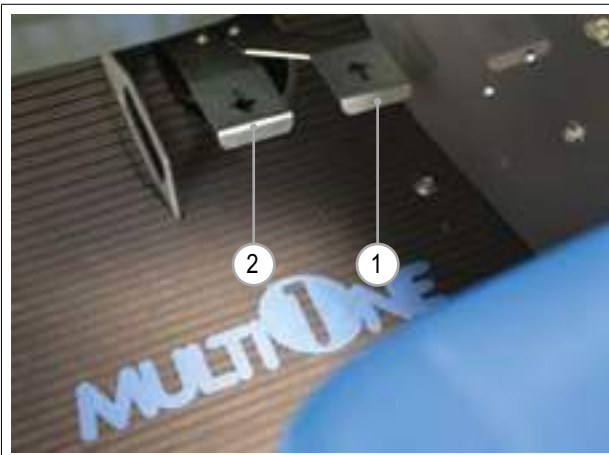

FIG. 21
- 4) Press the pedal relative to the direction of “Forward” (FIG. 21 - Ref. 1) or “Reverse” (FIG. 21 - Ref. 2).